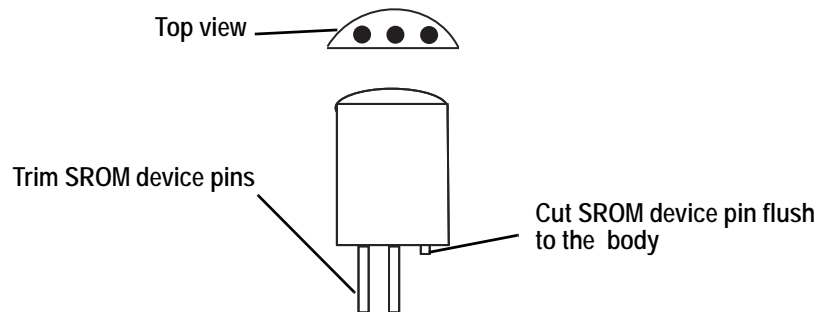

Figure 5-3 SROM Device
2. Refer to Figure 5-3 and cut the pin identified in the figure flush to the body of the SROM device.